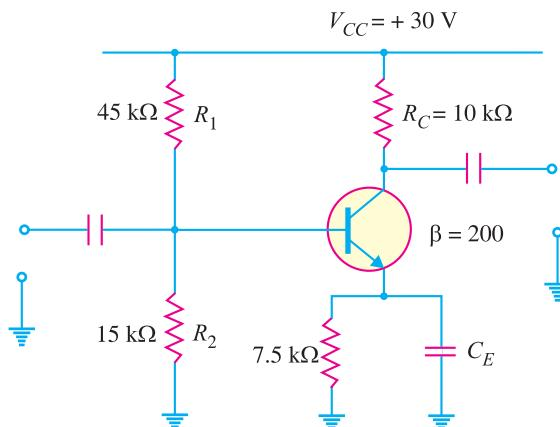

Fig. 10.35
**Example 10.20.** Determine the input impedance of the amplifier circuit shown in Fig. 10.35.